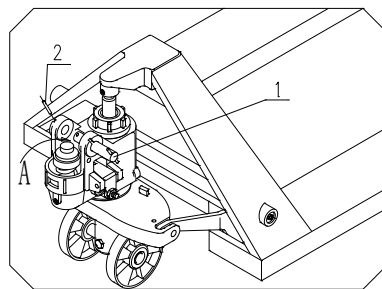

Fig. 1
- 3.1 See fig 1, pull out the pin roll 1.